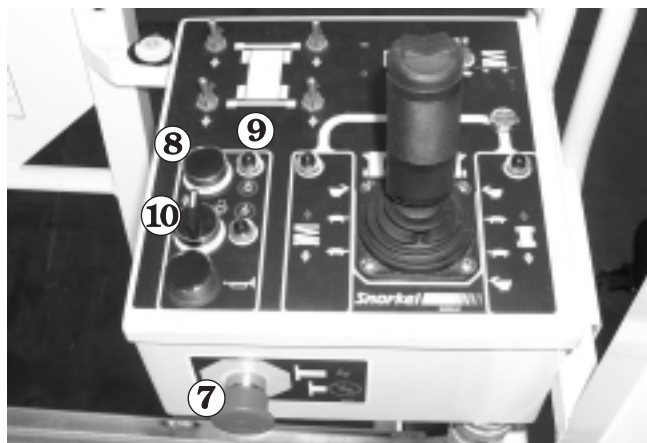

Figure 8.19
6. Turn the **Emergency Stop** switch ⑦ clockwise and it will pop out (on) (see Figure 8.19).
7. If the engine is at ambient temperature, momentarily press the GLOW-PLUG switch ⑧. This action will automatically turn the glow-plugs, in the engine, on for 10 seconds. A light ⑨ will automatically come on to indicate that the glow-plugs are on (see Figure 8.19).
8. When the light ⑨ goes out, press and hold the START switch ⑩ until the engine starts or for 20 seconds, whichever comes first. When the engine starts, release the START switch ⑩ (see Figure 8.19).